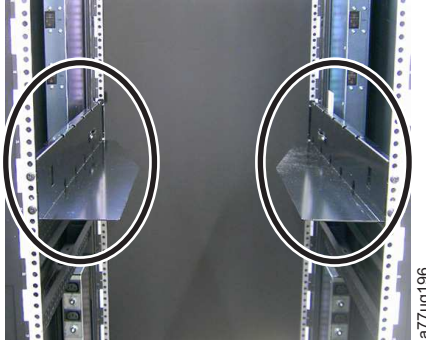

Figure 191. Front view of a rack, showing the rails installed
2. With assistance, slide the replacement library enclosure onto the metal rails that are already in position in the rack (see Figure 191).